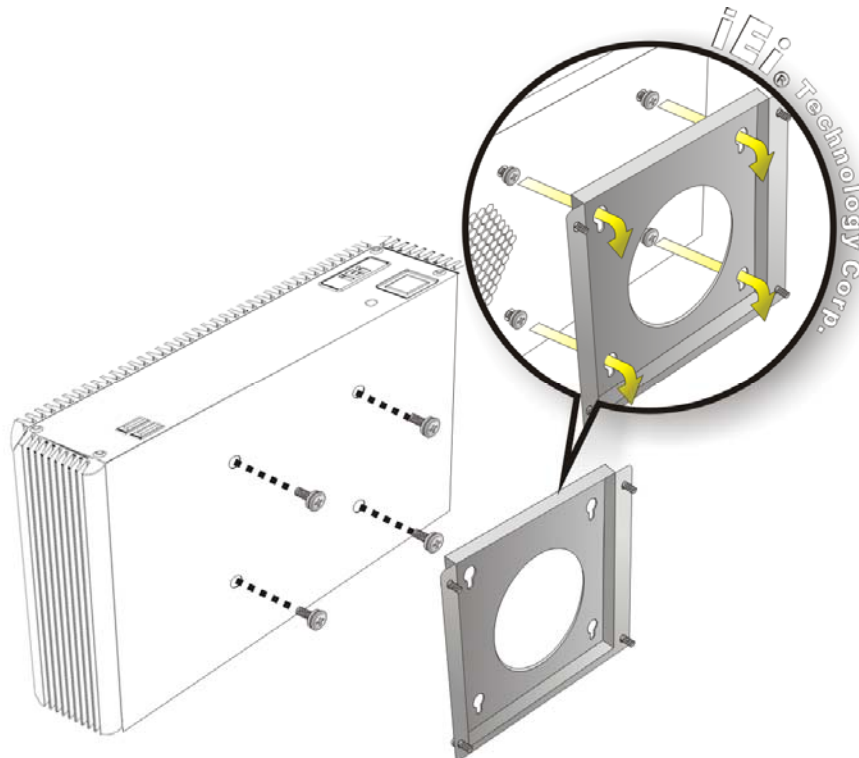

Figure 3-24: Mount the Embedded System
- Step 6:** Insert the four monitor mounting screws provided in the wall mounting kit into the four screw holes on the bottom panel of the system and tighten until the screw shank is secured against the bottom panel (**Figure 3-24**).
- Step 8:** Carefully insert the screws through the holes and gently pull the monitor downwards until the ECW-281B-BTi rests securely in the slotted holes (**Figure 3-24**). Ensure that all four of the mounting screws fit snugly into their respective slotted holes.